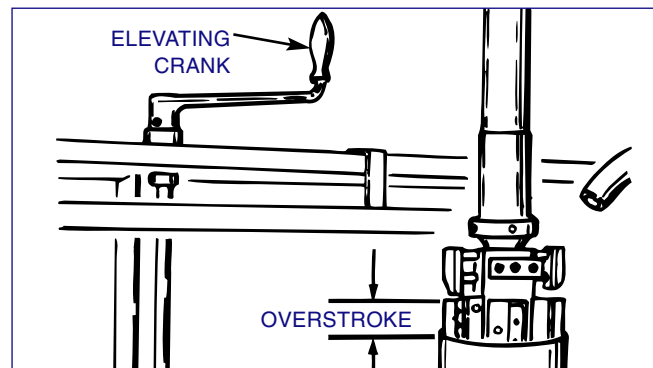

FIGURE 3-32, Overstroke
NOTE: Overstroke is the amount that a stone sticks out of the bore at the extremes of the top and bottom of the stroke (*see Figure 3-32*).
10. Use Elevating Crank to position workpiece so stone extends above top of bore the amount determined in Step 8 (*refer to Figure 3-32*).